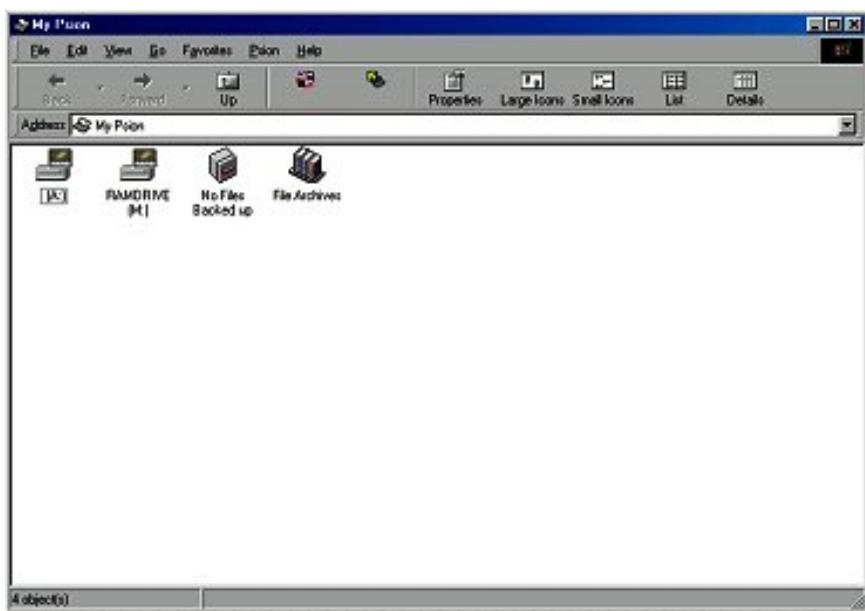

Fig. B2. Explorer screen for My Psion
9. Double click the icon "Not Connected" to connect the PSION to the computer and the following window will appear. Fig. B2.